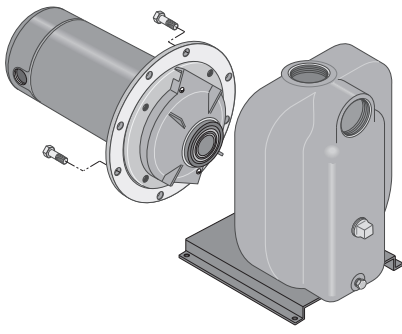

FIGURE 11 - SLIDE MOTOR BACK
5. Remove cap screws holding seal plate to pump body. Motor assembly and seal plate can now be pulled away from pump body (Figure 11).